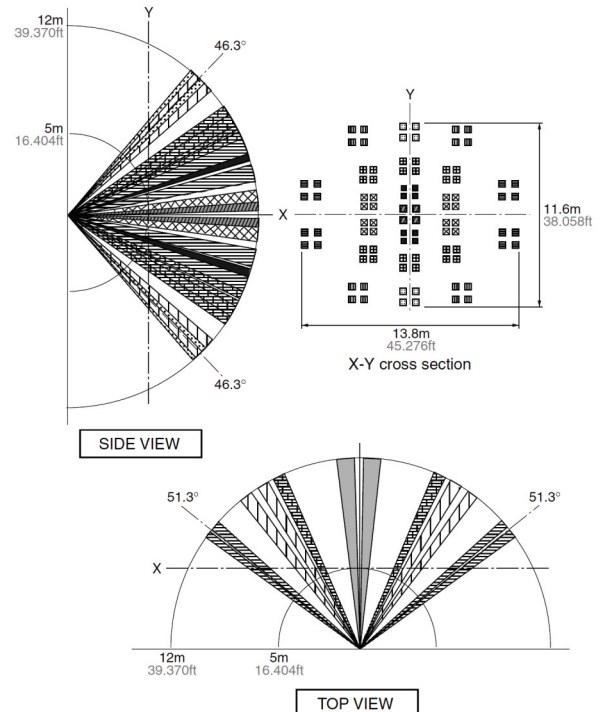

Figure 2: LC2-LR PIR occupancy sensor range
- Long Range PIR Occupancy / Vacancy Sensor** - Auto-dims LED lights when vacant. Brightens immediately when occupied. All timings are fully programmable. The occupancy sensor has a long range of 12m (40ft) and adequately covers the area below the converted fixture as shown in Figure 2.